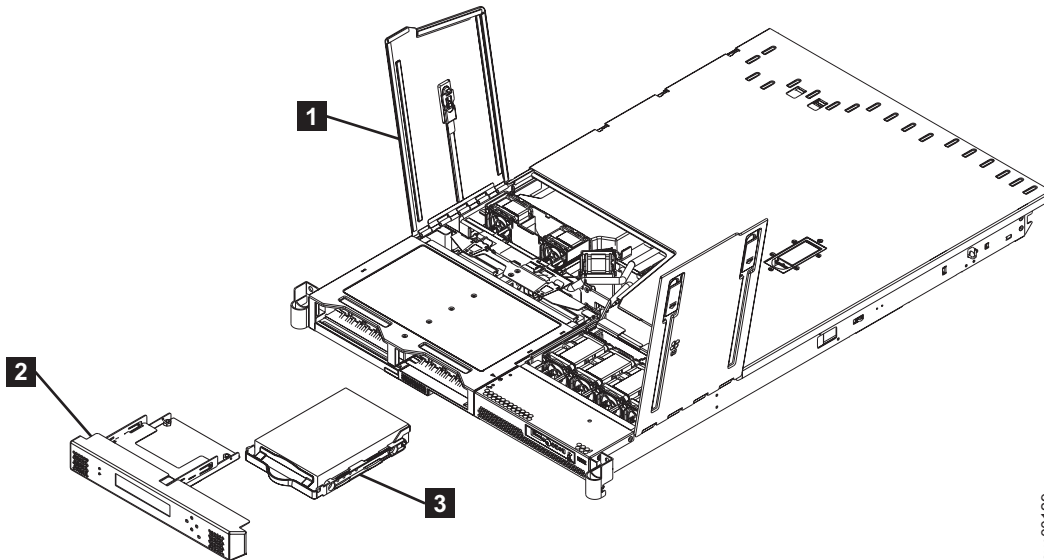

Figure 100. Removing the SATA disk drive
5. Open fan door A (**1** in Figure 100).